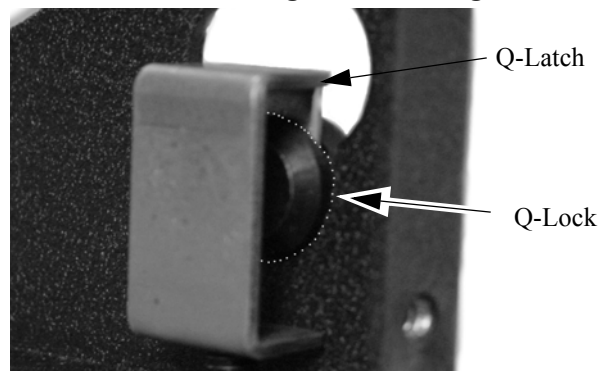

Figure 4. Install Q-Locks
6. Lock the display in place by installing two Q-clamps on each side of the bottom of face plate as shown in Figure 4.